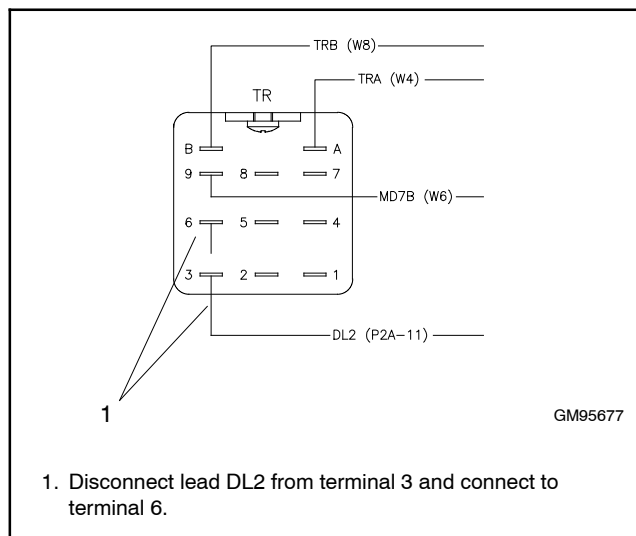

Figure 7-6 Lead DL2 Reconnection on the Transformer Panel, MCCB Models
1. At the TR relay on the transformer panel, disconnect lead DL2 from terminal 3 and connect it to terminal 6. See Figure 7-6.